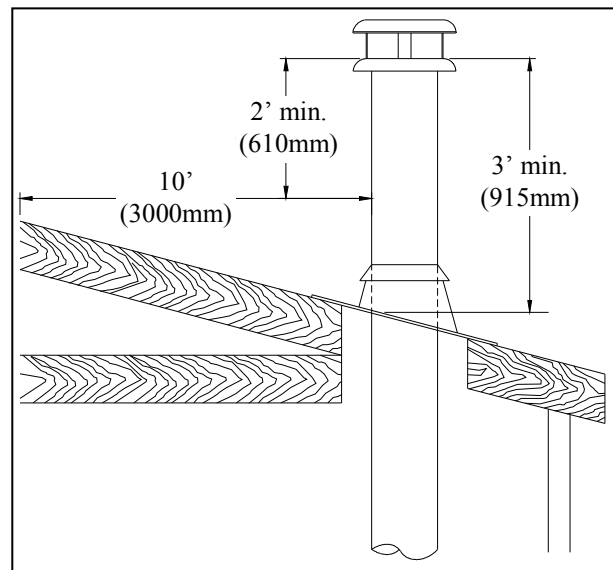

Figure 8
8. The chimney must extend at least 3' (915 mm) above its point of contact with the roof and at least 2 feet (610 mm) higher than any wall, roof or building within 10' (3 m) of it. (see Figure 8)